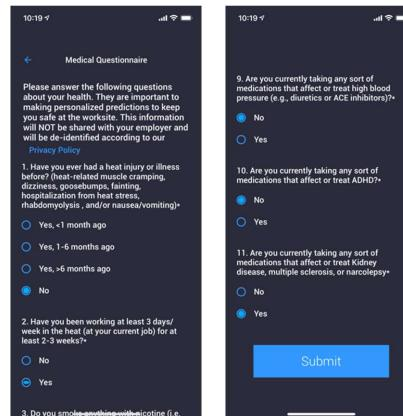

Figure 14: Medical Questionnaire
5. Complete the medical questionnaire (Figure 14).